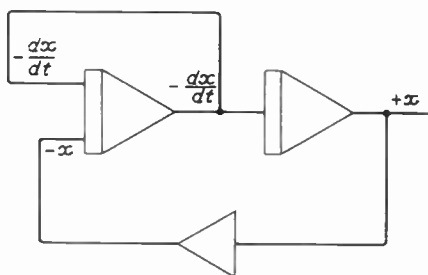

Fig. 12. Integrator can sum as well as integrate
The circuit shown in Fig. 12 uses the summation provided by the integrator (at left) to eliminate the separate summer shown at far right in Fig. 11. As the sum of the inputs  $(-dx/dt - x)$  is equal to  $d^2x/dt^2$ , this circuit also satisfies equation (5). Figs. 11 and 12 both solve the same problem, but Fig. 12 uses one less element.